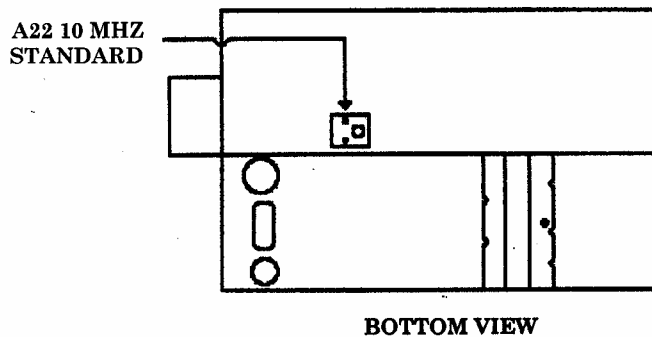

Figure 1. Frequency adjust.
- (6) Remove A22 adjustment cover screws.
- (7) Adjust A22 (fig. 1) for a minimum indication on the time/frequency workstation.
- (8) Check the drift after 24 hours. The drift will be $<1 \times 10^{-9}$